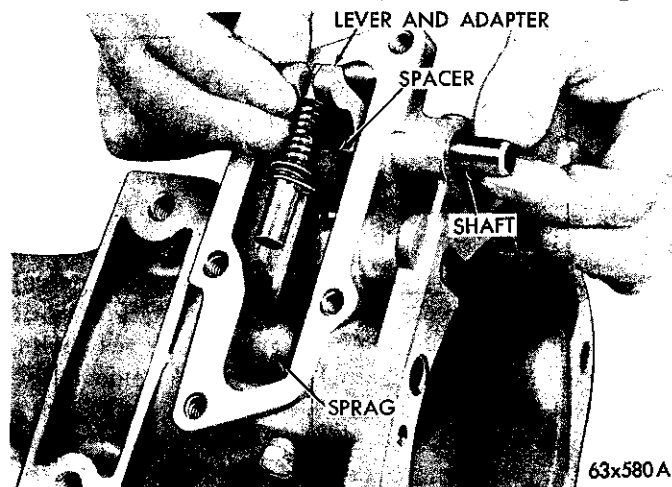

Fig. 43—Removing or Installing Parking Lock Lever and Cable Adapter
(1) Remove the extension housing. See Paragraph 19.
(2) To replace the governor support, refer to Paragraph 20.
(3) Remove the parking lock cable adapter cover from the bottom of the extension housing.
(4) Remove the plug from the extension housing, slide out the shaft to remove the parking lock lever, spacer and cable adapter (Fig. 43). Replace the adapter spring if it is distorted.
assembly in the extension housing and install the lever shaft (Fig. 43). The lever roller must be on top of the sprag so as to push it into engagement with the parking gear. Install and tighten the plug to 150 inch-pounds torque.